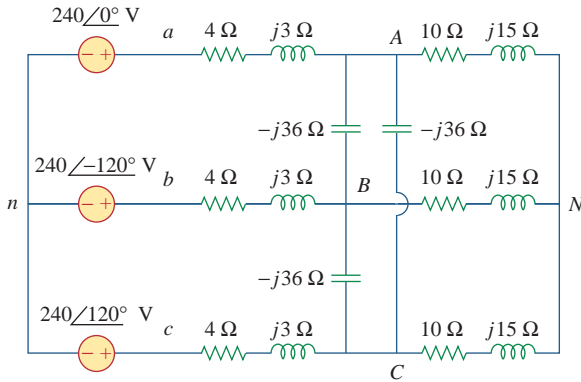

Figure 12.67
- 12.61** Given the circuit in Fig. 12.67, use *PSpice* to determine currents I_{aA} and voltage V_{BN} .